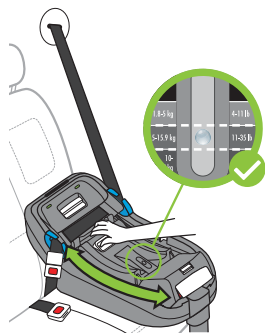

Figure 67
- Pull and hold Recline Sled Adjustment Handle and rotate Recline Sled, as shown in **Figure 67**, to the maximum recline adjustment position that keeps part of the bubble within the range specified on Recline Indicator for the child's weight.